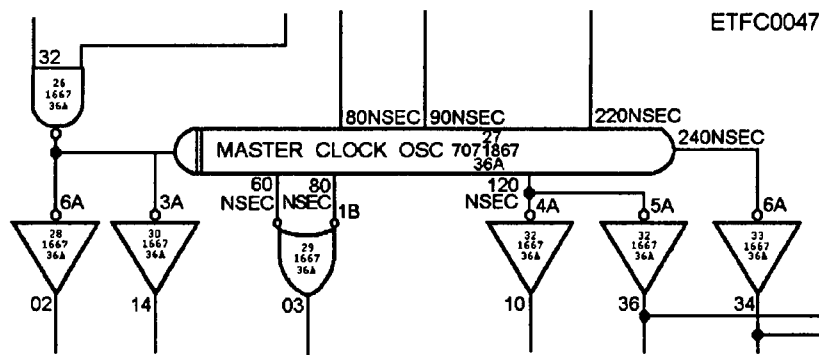

Figure 4-39.—Example of a delay line oscillator.
Oscillators are used in computer timing circuits for their output and frequency stability characteristics. The more important quality of the two for use in computers is their frequency stability. The speed of a clock is determined by the oscillator using a resistance-capacitance (RC) or inductance-capacitance (LC) network and/or crystal combination. An oscillator can use bipolar or MOS technology. Crystal-controlled oscillators are used in computers because they are stable even at extremely high frequencies. Master clocks in computers often use an oscillator with a delay line to deliver the basic clock phase and any additional clock phases. See figure 4-39.